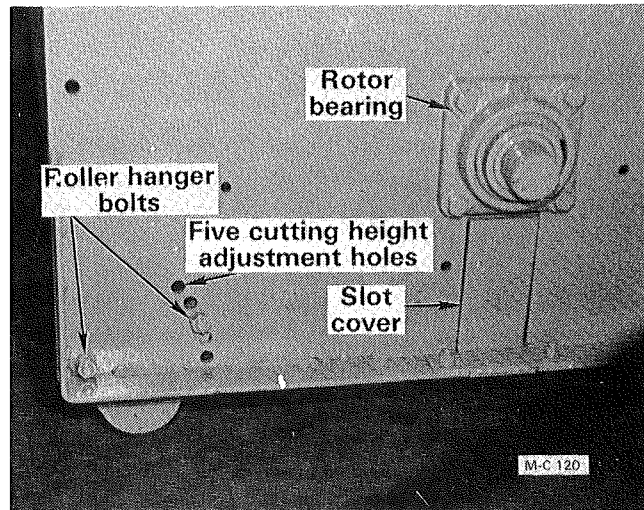

Figure 13
1. There are a series of five holes at each end of the gauge roller, see Figure 13. Loosen the bottom capscrew in each gauge roller hanger.